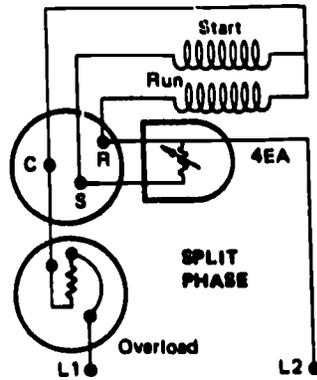

Fig 2-33. Solid state relay schematic.
**SOLID STATE RELAYS** (fig 2-33) use a self-regulating conductive ceramic developed by Texas Instruments, Inc., which increases in electrical resistance as the compressor starts, thus quickly reducing the starting winding current flow to a milliamperage level. The relay switches in approximately .35 second. This allows this type of relay to be applied to a refrigerator compressor without being tailored to each particular system within the specialized current limitations. These relays will start virtually all split-phase 115-volt hermetic compressors up to 1/3 hp. An overload must be used with these relays. Since these relays are push-on type devices, the easiest methods of checking their operation is to simply install a new one. Be sure to check the amperage draw of the compressor motor.